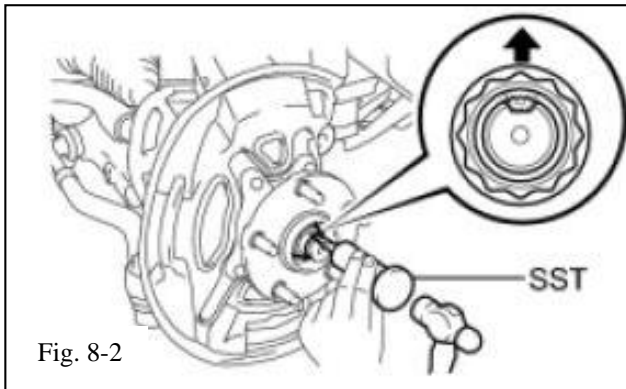

Fig. 8-2
- (c) Using SST and a hammer, release the staked part of the front axle hub nut (Fig. 8-2). Remove and discard the nut as it is to be replaced with a new nut, P/N 90177-22001.